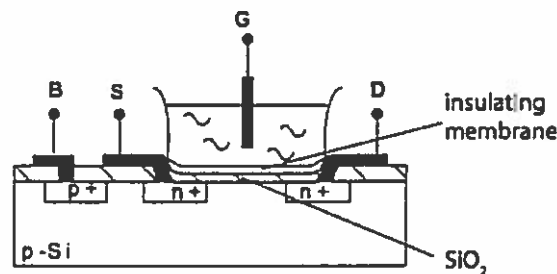

Figure 3.1
- b) Figure 3.1 shows an Ion-Sensitive Field Effect Transistor. The threshold voltage of the device is modulated by a pH dependent potential described by: